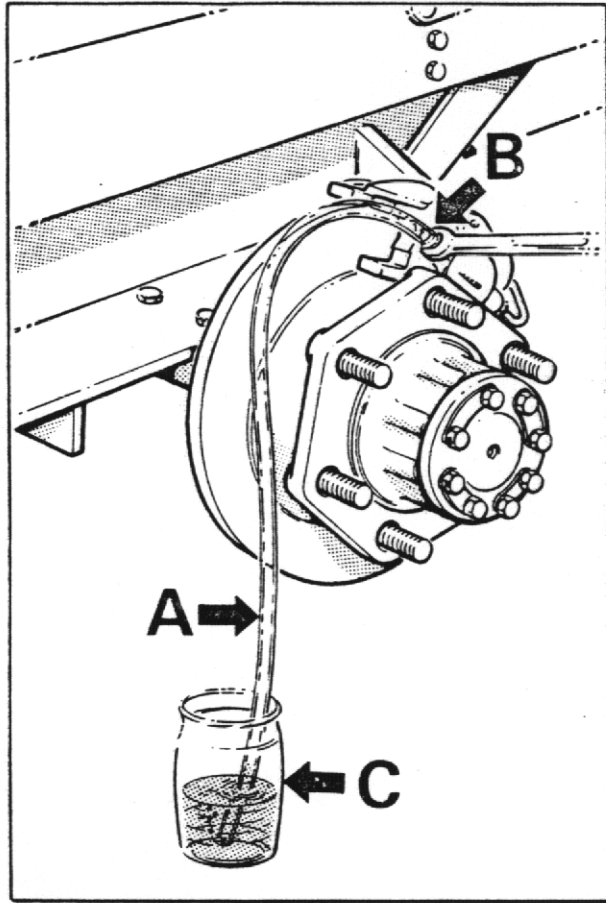

FIG. 7
3. Attach bleeder tube (A) (See Fig 7) to one of the bleed screws (B) and immerse other end in a small quantity of brake fluid contained in a glass jar (C). Slacken bleed screw and operate brake pedal up and down to its full stroke, until fluid pumped into the jar contains no air bubbles. Hold down pedal and close bleed screw. Remove bleeder tube and release pedal.